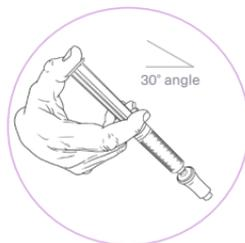

Fig 2. Hold syringe at 30 degree angle and push plunger to deliver contrast.
- 5 Using constant pressure at an angle of approximately 30 degrees, push the plunger rod as fast as possible and deliver contrast until the plunger rod bottoms out [Fig 2.].